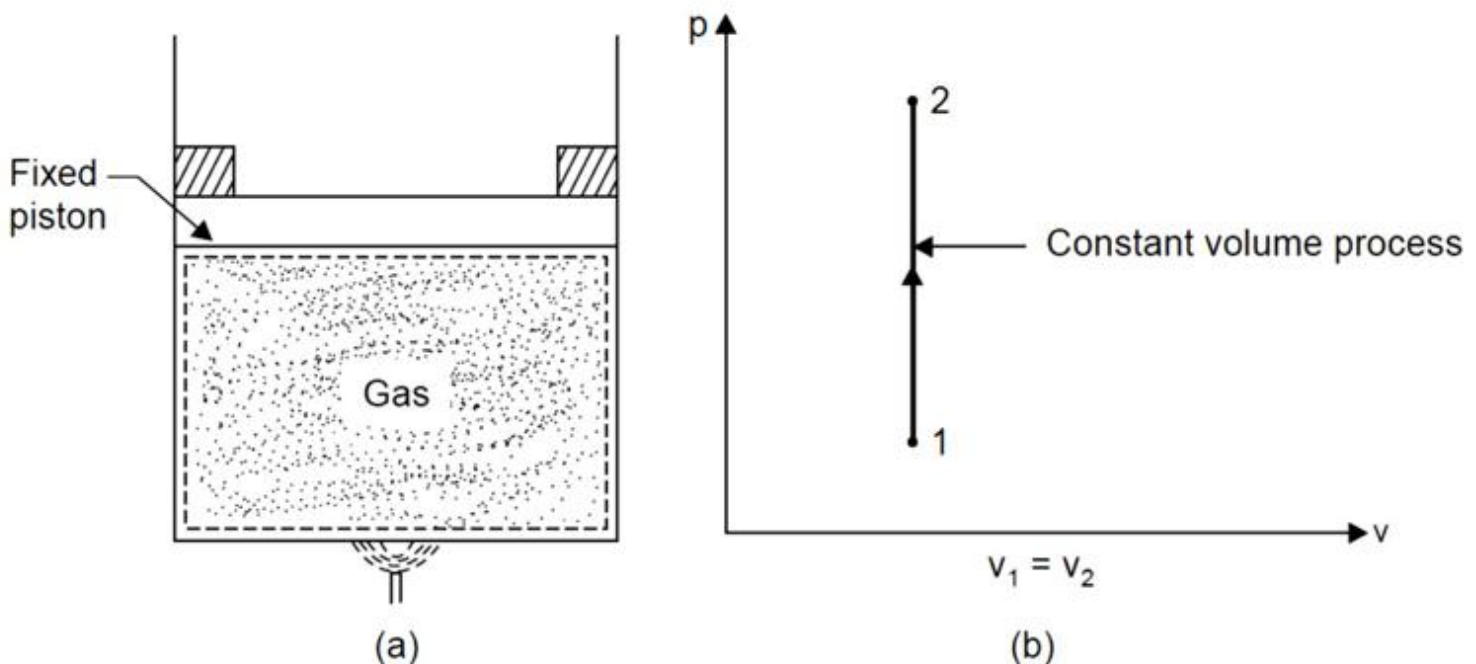

Fig. 2.15 Constant volume process (Isochoric)
- Fig. 2.15 to 2.19 shows schematic and P-v diagram for all the processes listed above.